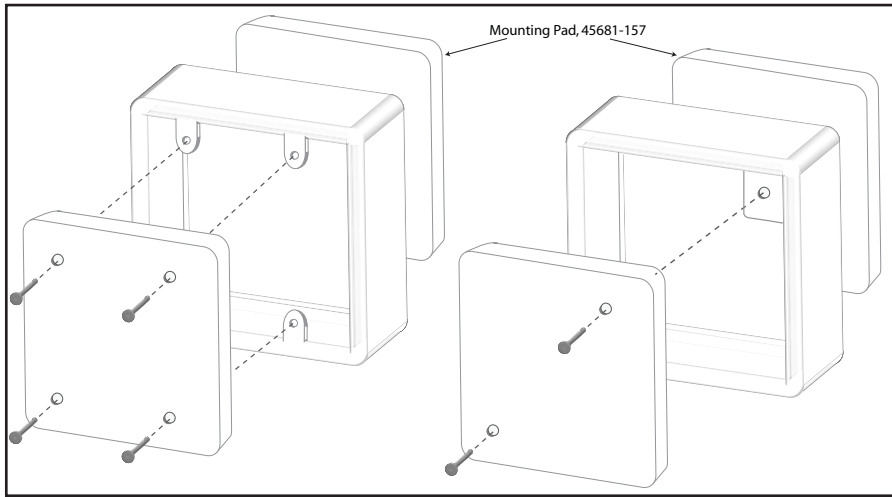

Fig 1. Mounting the XP95A 120 VAC I/O Module
2. Drill holes in the fascia plate corresponding to the holes on the mounting box selected (Fig 1).